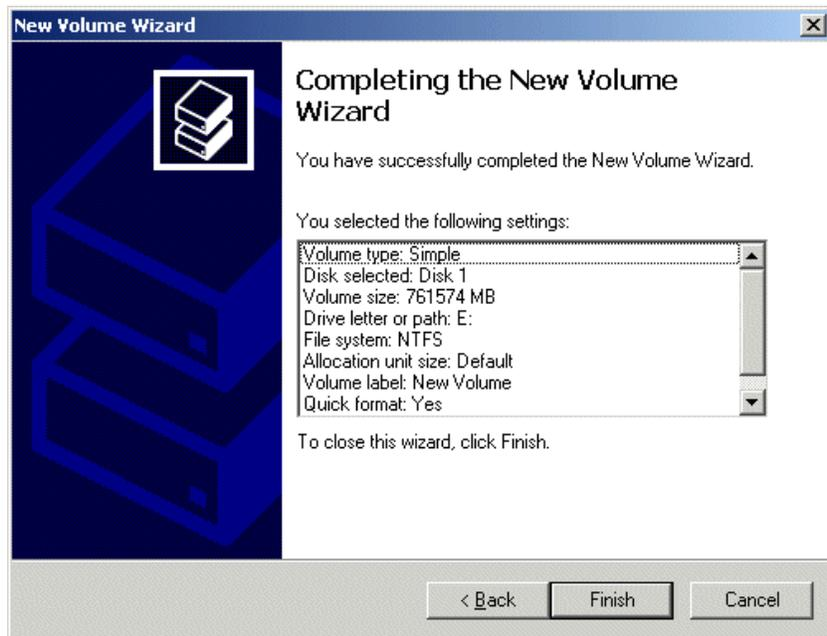

Figure 2-28. The Completing the Wizard dialog
- 28) Click the **Next** button to be presented with the **Completing the New Volume Wizard** screen as shown in Figure 2-28.